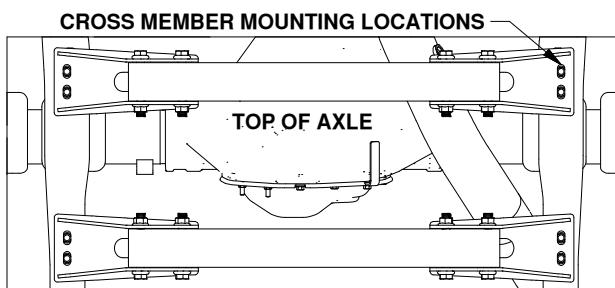
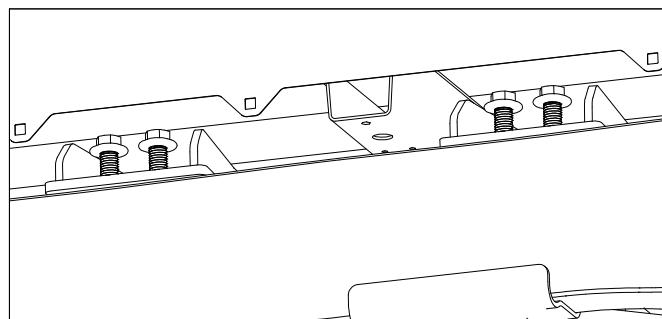

Figure B1: View looking down over truck frame (bed not shown).
Figure E1: View looking into passenger side wheel well.
1. **Cross member installation location.** The cross members for this hitch installation are designed to rest on top of the truck frame and mount to existing threaded holes on the top of the frame rail. To make installation as easy as possible, locate and familiarize yourself with these threaded holes before installing the cross members. See Figure B1 for a top down view of the frame with the cross members installed.
2. **Locate parts and hardware.** Locate the two cross members and the four cross member brackets. These will be assembled together using 5/8" x 4-1/2" flange bolts and 5/8" flange nuts, see Figure B1.
- Install M14 bolts.** Locate the eight M14 X 35mm flanged head bolts. Pass each bolt through the cross member brackets and into the threaded holes in the frame as shown in Figure E1. Refer back to Figure B1 for frame bolt locations. Do not fully tighten hardware connections at this time.